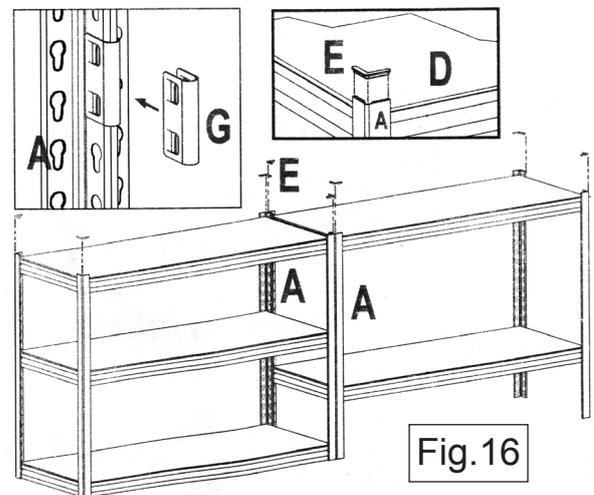

Fig.16
**4.14 See Fig.16.** Place the two units end to end as shown below and join them together using the 2 post clips (G). Insert a post cap (E) into the top of each 'A' post.